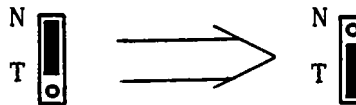

Figure 3-111. Source Third IF Converter 86.6 MHz BPF Adjustment Locations
1. Remove one of the shield covers (PN 04195-00654) from the A40 board, and set jumper A40J6 setting from "N" to the "T" position. Refer to Figure 3-111.
2. Connect the equipment as shown in Figure 3-110. See Figure 3-111 for A40J2, A40J3, A40J4 and A40J5 locations.